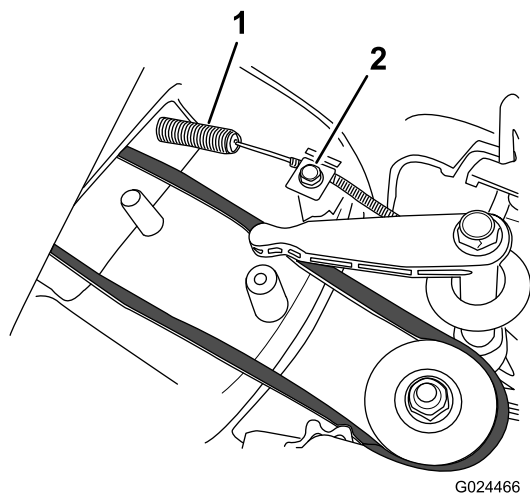

Figure 30
2. Install the new blade-brake cable, but do not tighten the cable clamp on the top of the mower housing (Figure 30).